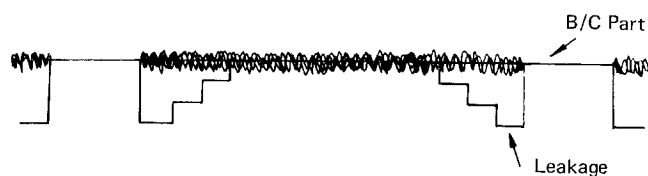

Figure 42.
- Adjustment only with R- $\gamma_2$  control may inevitably result in the signal leakage shown below. In this case, further adjust YL- $\gamma$  control (VR18) to make it least. Otherwise, never attempt to adjust YL- $\gamma$  control. (See Fig. 42)